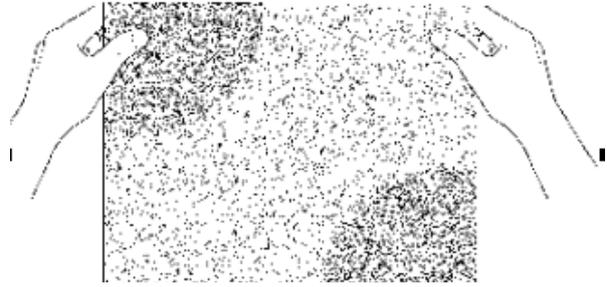

Figure 2. Tack One Edge of the Graphic
2. Use your thumb to gently tack the top edge of the graphic in place. See Figure 2.